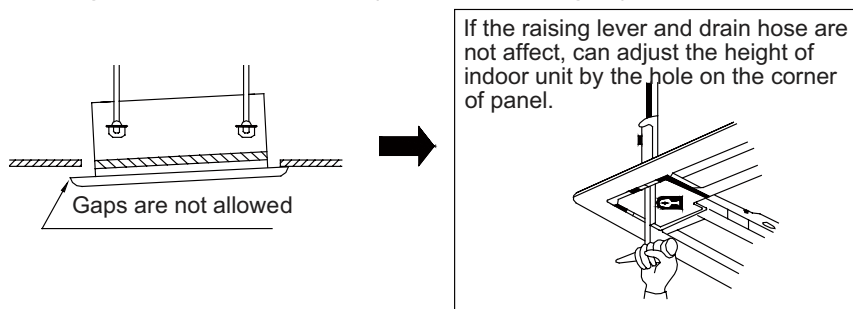

Fig. 6
②. If the gap still exists between the ceiling and the decoration panel after tightening the screws, readjust the height of the indoor unit. (As shown in Fig. 6)